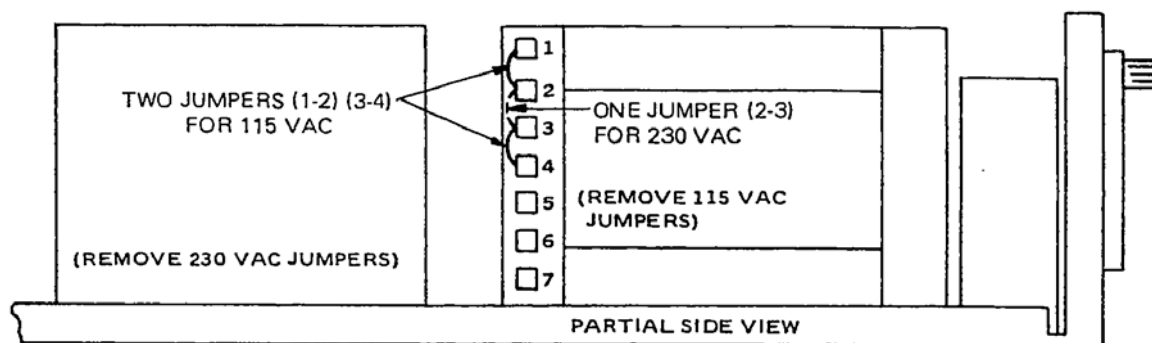

FIGURE 2-4. CONVERSION TO 230V AC LINE OPERATION
This power supply is normally supplied for operation on a single phase, nominal 115V AC line. For conversion to 230V AC line operation, refer to FIG. 2-4. Remove the two wire jumpers between transformer terminals indicated. Re-connect one (1) jumper between terminals indicated. Do not change any other wiring on the transformer.